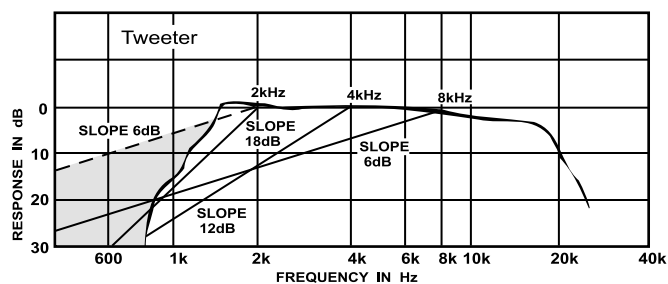
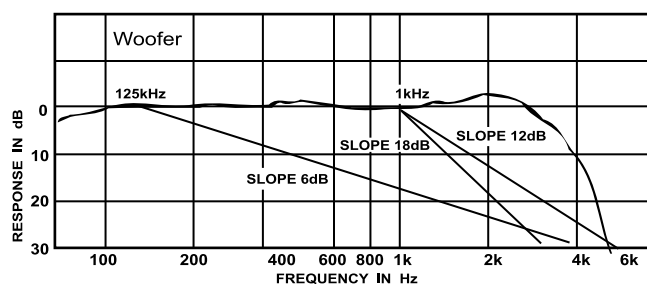
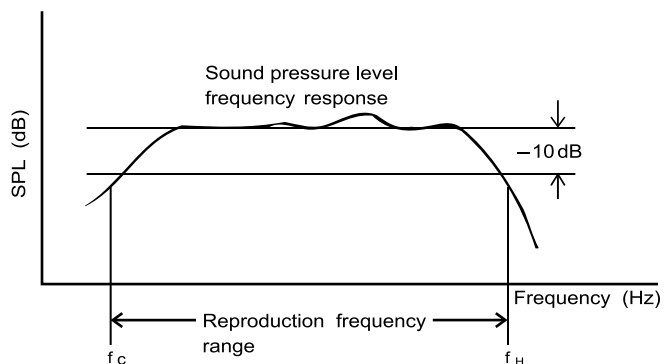

Fig. 10
Fig. 11
Fig. 9
- All speakers have a reproduction frequency range (see Fig. 9) which is described in the speaker's technical specifications. This will include crossover or cut-off frequencies. These specifications, however, usually quote the upper or lower limits. So when considering slope selections, it is advisable to select cut-off frequencies somewhat higher than the rated frequency for tweeters (see Fig. 10), and frequencies somewhat lower for woofers (see Fig. 11).
If  $2\text{kHz}$  is chosen as the crossover frequency for a tweeter whose cut-off frequency is also around  $2\text{kHz}$  (see Fig. 10), selection of the  $6\text{dB/oct}$  slope will mean that the tweeter will be liable to receive signals of frequencies which it is not able to handle properly (indicated by shaded area). This will result in loss of tonal quality, or in extreme cases, damage to the tweeter itself.
In general, when the crossover frequency is close to the speaker's upper (or lower) limit of the reproduction frequency range (Fig. 9), the selected slopes should be either  $18\text{dB}$ , or  $12\text{dB}$ .
Fig. 11 is an example of suitable woofer cut-off frequencies for different slopes.